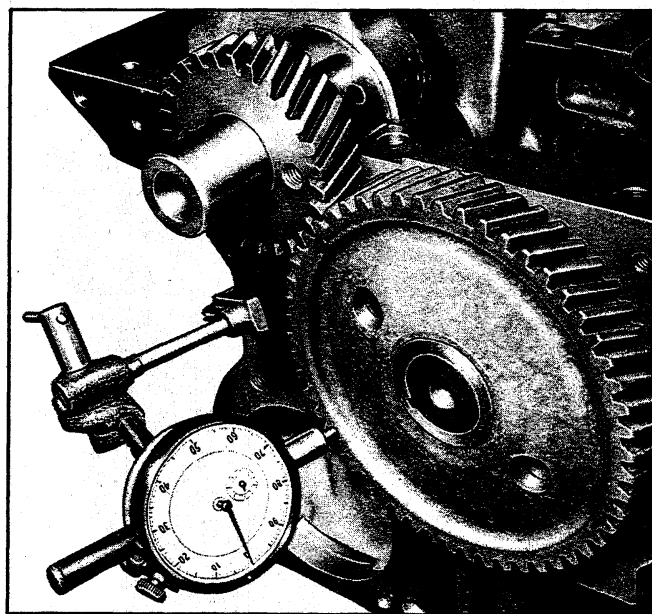

Fig. 16L - Checking Camshaft Gear Runout
3. Check camshaft and crankshaft gear run out with a dial indicator (fig. 16L). The camshaft gear run out should not exceed .004" and the crankshaft gear run out should not exceed .003".